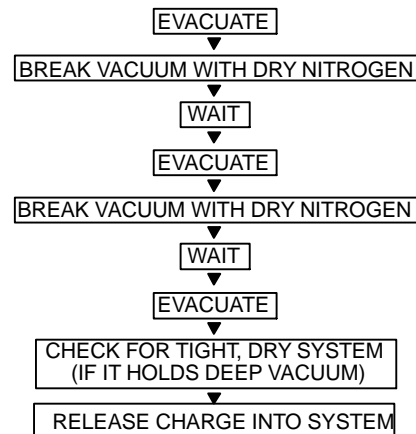

Fig. 19 – Triple Evacuation Method
Refer to Fig. 19 and proceed as follows:
5. Repeat this procedure as indicated in Fig. 19. The system will then be free of any contaminants and water vapor.